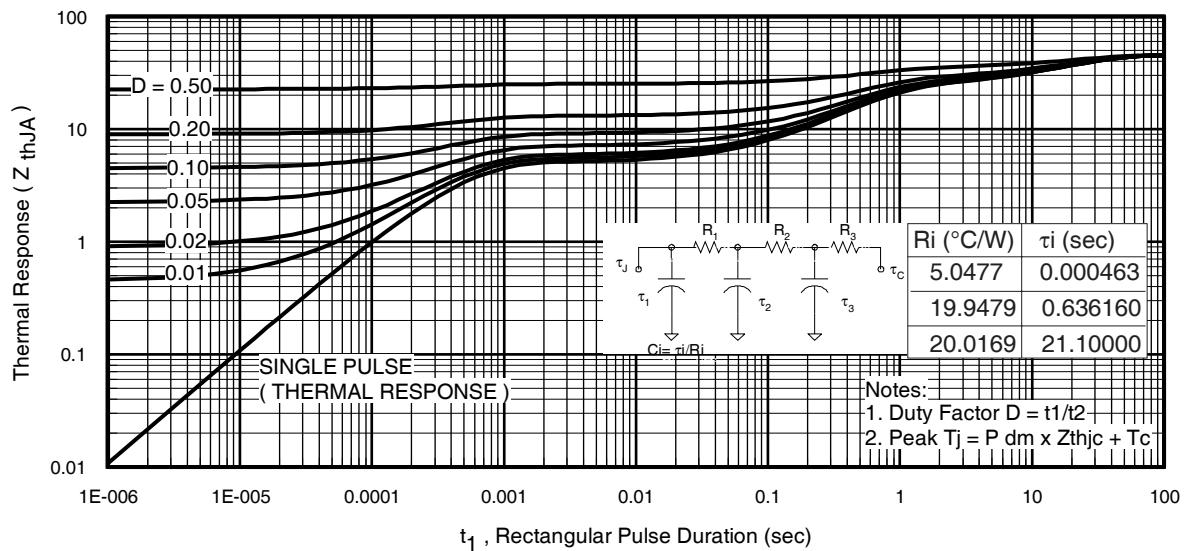
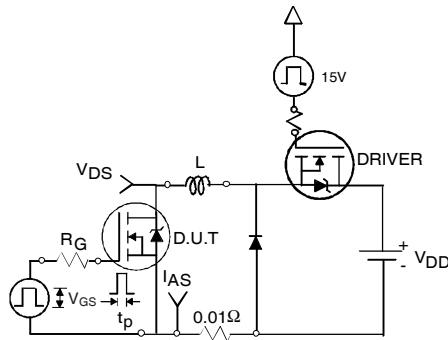

Fig 11. Maximum Effective Transient Thermal Impedance, Junction-to-Ambient
Fig 12a. Unclamped Inductive Test Circuit
- ① Repetitive rating; pulse width limited by max. junction temperature. (See fig. 11).
- ② Limited by $T_{J\text{max}}$, starting $T_J = 25^\circ\text{C}$, $L = 2.8\text{mH}$ $R_G = 25\Omega$, $I_{AS} = 3.1\text{A}$, $V_{GS} = 10\text{V}$. Part not recommended for use above this value.
- ③ Pulse width $\leq 1.0\text{ms}$; duty cycle $\leq 2\%$.
- ④ $C_{\text{oss eff.}}$ is a fixed capacitance that gives the same charging time as C_{oss} while V_{DS} is rising from 0 to 80% V_{DSS} .
⑤ Limited by $T_{J\text{max}}$, see Fig.12a, 12b, 15, 16 for typical repetitive avalanche performance.
⑥ This value determined from sample failure population. 100% tested to this value in production.
⑦ When mounted on 1 inch square copper board.
⑧ When mounted on FR-4 board using minimum recommended footprint.
3. Equation below based on circuit and waveforms shown in Figures 12a, 12b.
$Z_{thJC}(D, t_{av})$ = Transient thermal resistance, see figure 11)